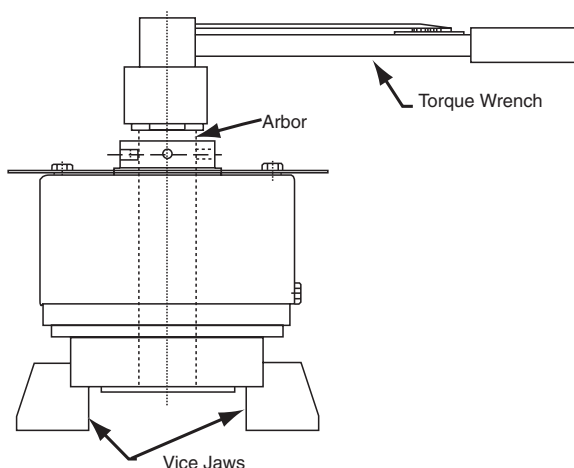

Figure 11
- E. For applications requiring a precise torque, the release torque setting of the clutch should be tested as shown in Figure 11. Verification of the release torque several times in both clockwise and counterclockwise directions is recommended. This service is available at the factory.